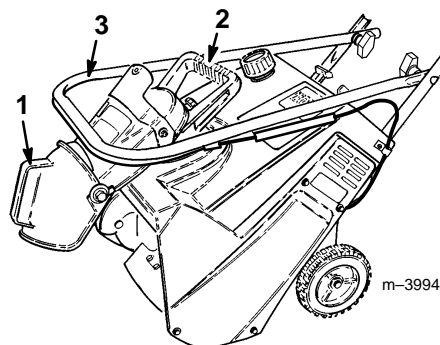

Figure 9
2. Fold the chute down and install the locknut and washer tightly onto the bolt at the rear of the discharge chute handle (Fig. 9).
3. Loosen the knobs on the handle and fold the handle down over the snowthrower, ensuring that you do not kink the control cable (Fig. 9).